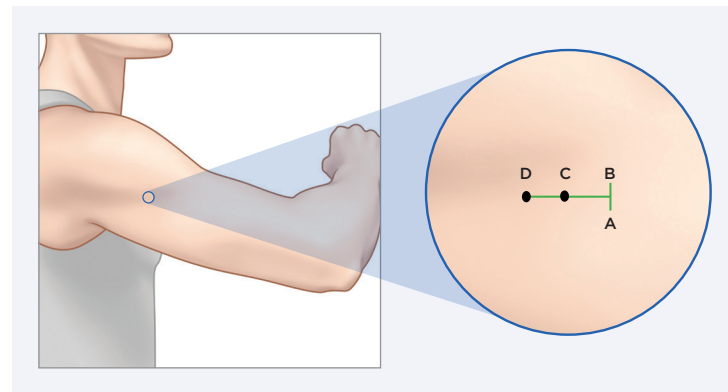

Figure 1
Local anaesthesia (approximately 2 mL of Lidocaine) should be injected along the planned incision (along AB) and perpendicular to the planned incision (along CD) which is the planned track of the blunt dissector tool. (Figure 1).
Start incision at point B (Figure 1) and go towards point A, until the incision is approximately 5 mm.
2. Remove the blunt dissector from the tray and introduce the blunt dissector at approximately a 45-degree entry angle at the midline between A and B (Figures 1 & 2) so that the tip and tapered portion of the blunt dissector are under the skin, and until the depth guards are touching the skin.